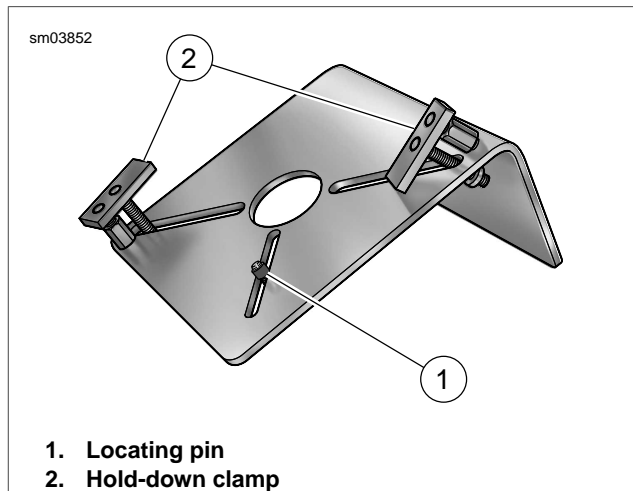

Figure 3-138. Flywheel Fixture (Part No. HD-44358)
1. Obtain FLYWHEEL SUPPORT FIXTURE (Part No. HD-44358). See Figure 3-138. Install brass jaws or shop towels around teeth of vise to prevent damage to tool. Clamp tool in vise with the round hole topside.